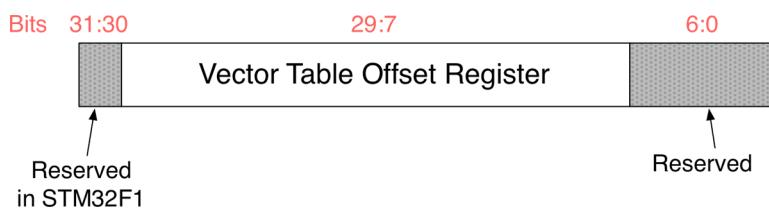

Figure 22.2: The structure of the VTOR register
- In STM32F1 MCUs, which are based on the Cortex-M3 r1p0 core revision, the bits [31:30] of the VTOR register are reserved (see Figure 22.2) and hence it is possible to relocate the *vector table* only in the code memory (`0x0000 0000`) and in SRAM (`0x2000 0000`).